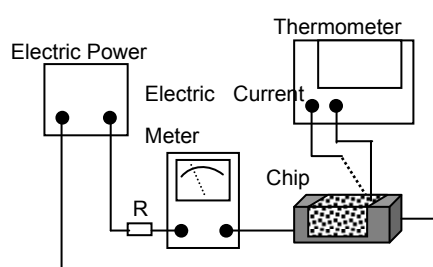

Fig. 5.3.5-1
- Definition of Rated Current(Ir): Ir is direct electric current as chip surface temperature rose just  $20^{\circ}\text{C}$  against chip initial surface temperature( $T_a$ ) (see Fig. 5.3.5-2).